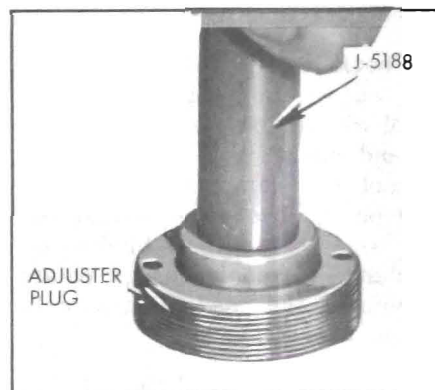

Figure 8-38—Installing Stub Shaft Seal
2. Lubricate new stub shaft seal with automatic transmission oil and install seal with spring in seal toward adjuster plug using Tool J-5188. See Figure 8-38. Install seal only far enough in plug to provide clearance for dust seal and retaining ring. Place new dust seal with lip up in plug, then install retaining ring with No. 3 Truarc Pliers, J-4245.